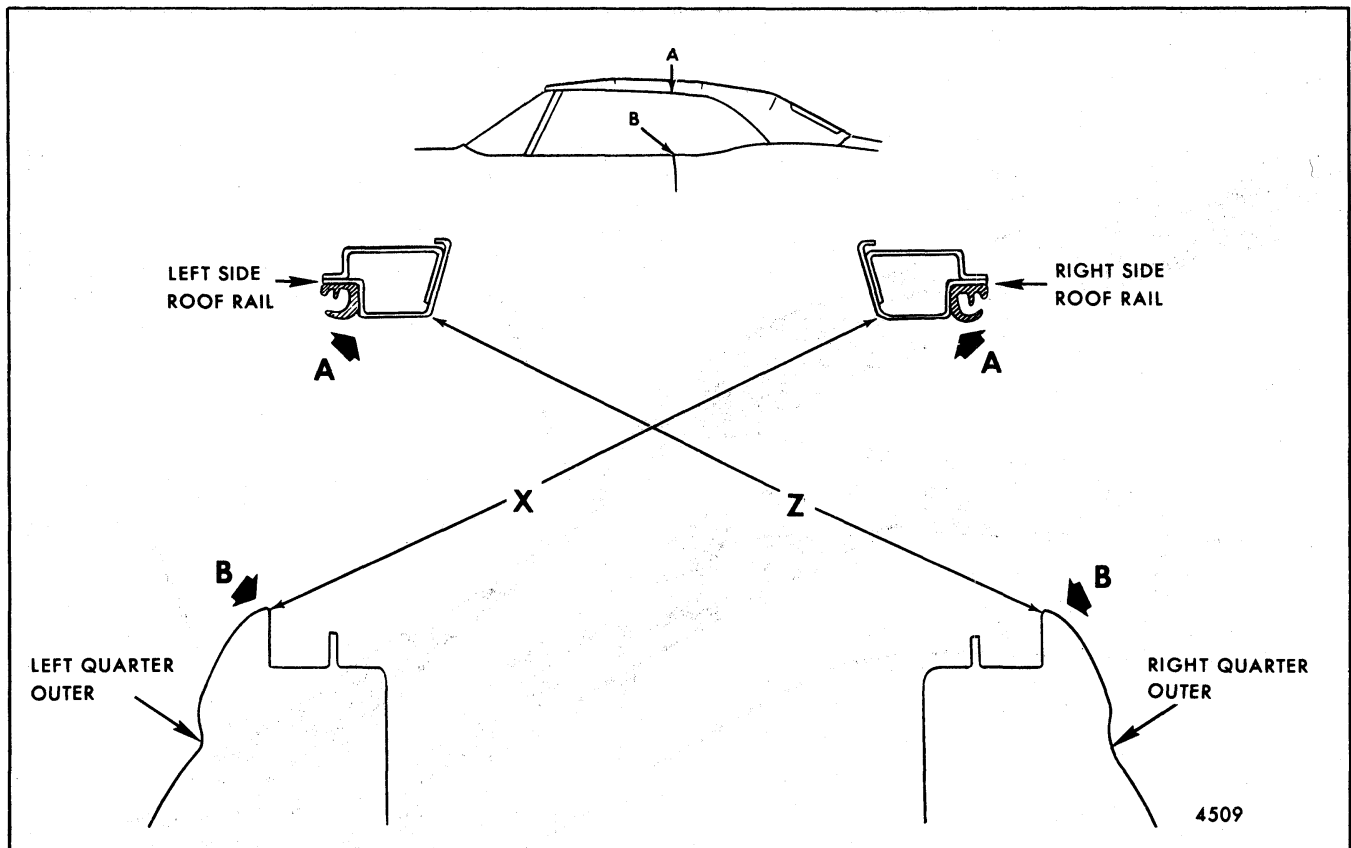

Fig. 8-110-Diagonal Check of Side Roof Rails
4. Cross-check body with tram gauge or tape measure as described in Figure 8-110. Side rails are in good alignment when both diagonal measurements are within 3/8 of an inch. Recheck measurements to assure accuracy. If difference between measurements exceeds 3/8 of an inch, side rail of longer measurement requires adjustment to decrease tension. In this event, adjust affected control link mounting plate forward.
- b. Diagonal measurements illustrated in Figure 8-110 are within 3/8 of an inch.